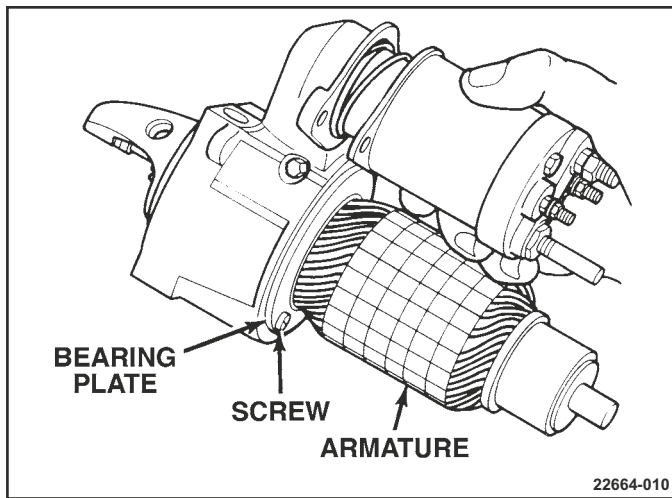

Figure 4-4 Bearing Plate and Armature
5. Remove center bearing-plate screws and remove armature from housing (figure 4-4).